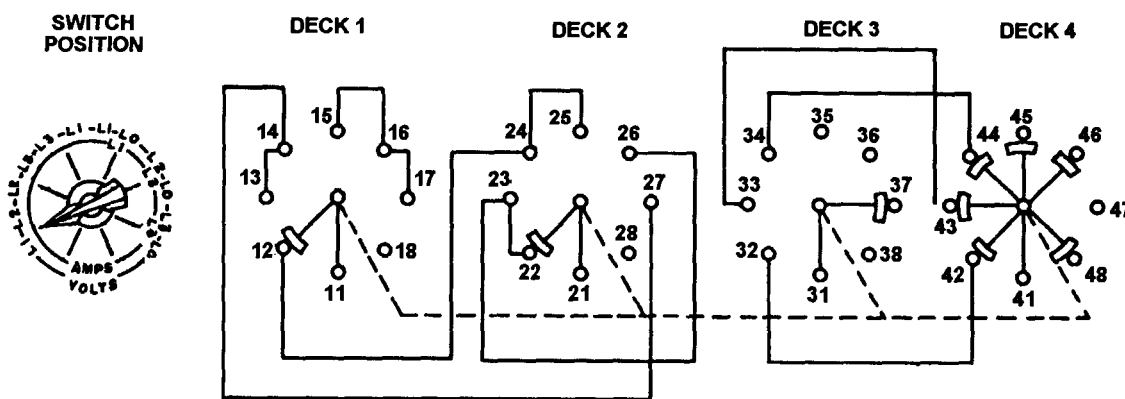

Figure 4-39. Volts-Amps Transfer Switch Schematic Diagram
- (c) Remove nut (39) to remove switch (40) from panel.
- (2) Cleaning and Inspection.
- (3) Testing.
- Check switch for continuity with a multimeter using schematic of Figure 4-39 as a guide.
The wiper contacts shown in Figure 4-39 rotate clockwise to the next set of stationary contacts when the switch shaft is rotated clockwise to the next position.